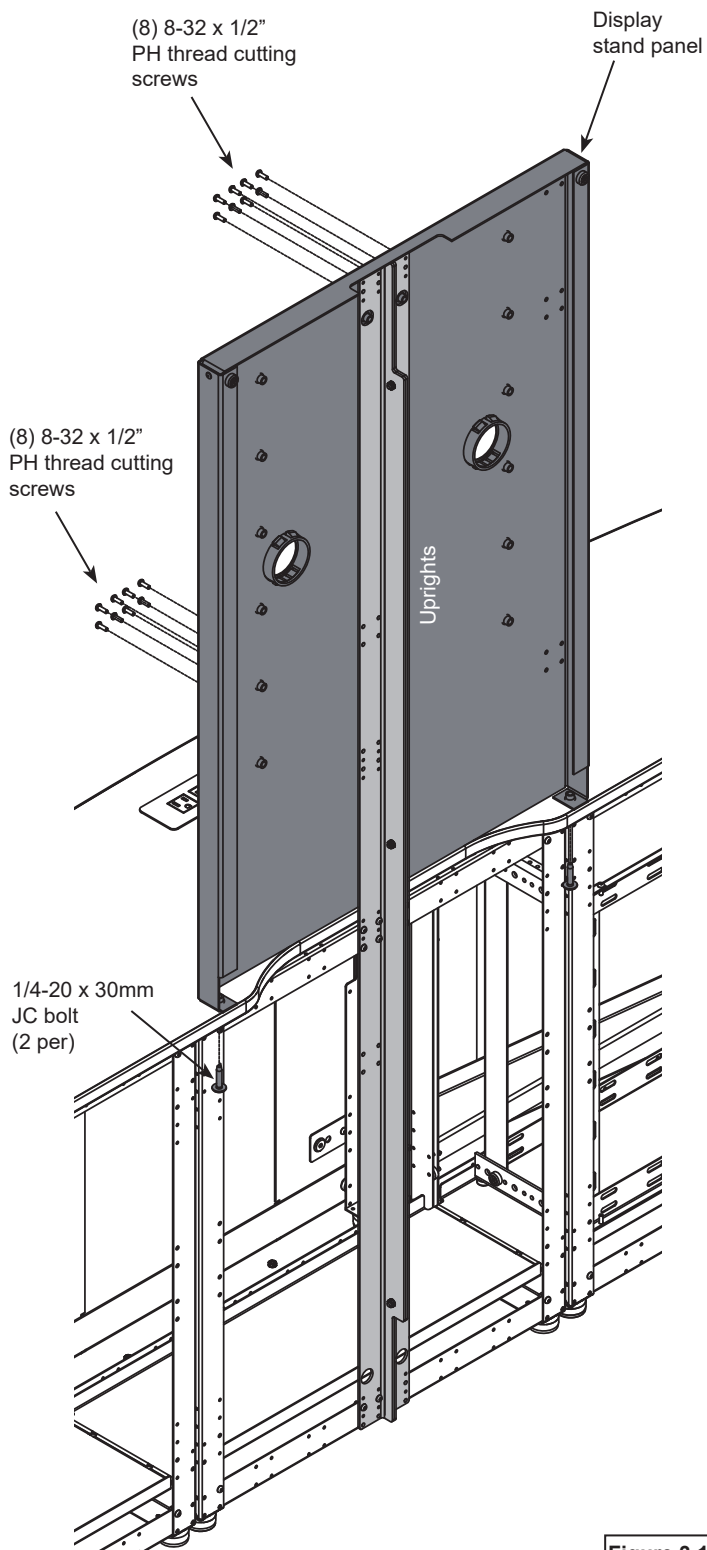

Figure 3.1
1. Attach the display stand panel to the uprights with (16) 8-32 x 1/2" thread-cutting screws. **Figure 3.1.**
2. Secure the stand to the worksurface with (2) 1/4-20 x 30mm JC bolts.